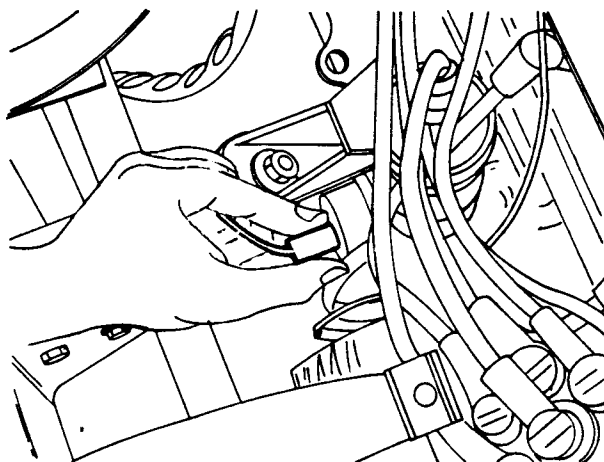

Fig B4.2
- (9) Refer to Fig B4.2. Disconnect the oil pressure switch lead.
- (10) Disconnect the engine earth cable at the chassis.